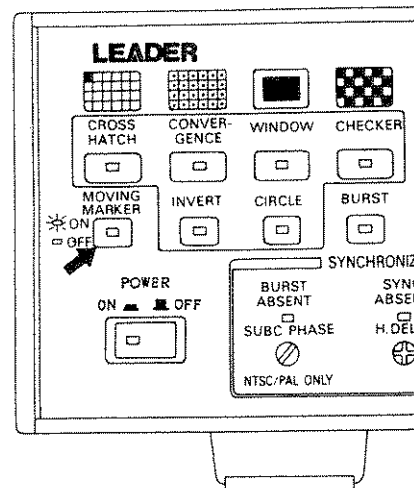

Figure 4.6
4.2.5 Moving Marker (See Figure 4.6)